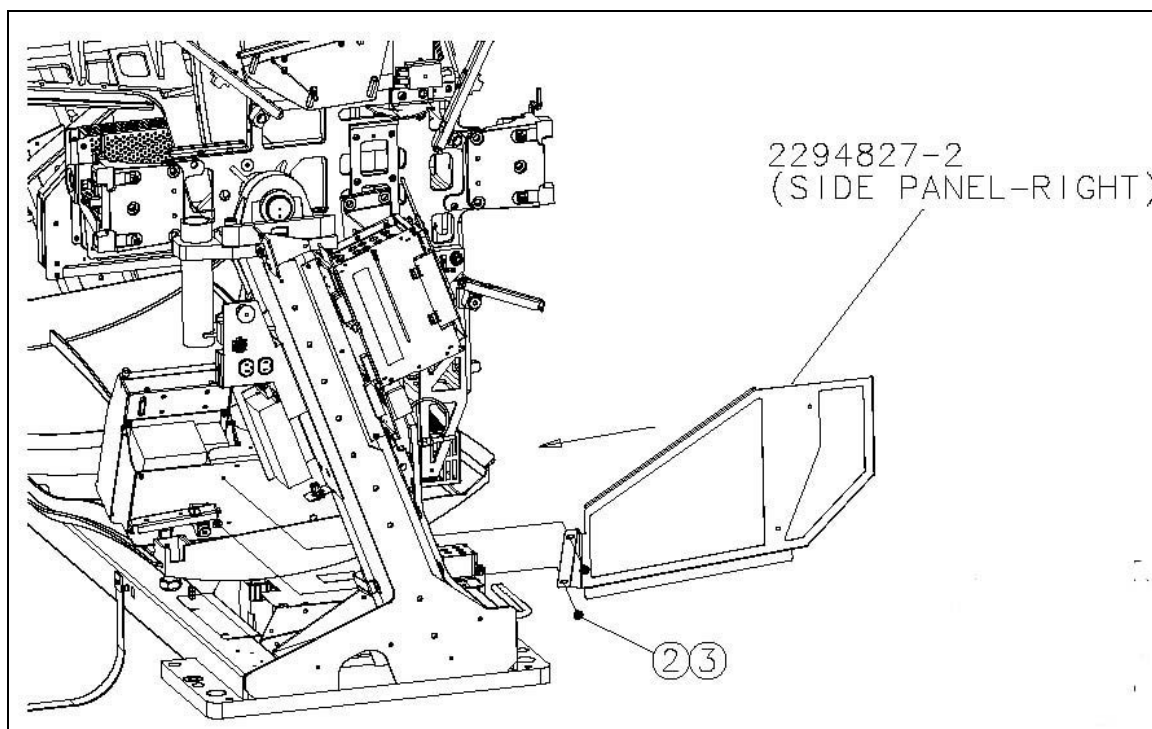

Figure 1. Right Side Panel Placement
4. Referring to Figure 1, carefully slide new side panel (2294827-2) into position from the rear of the gantry.